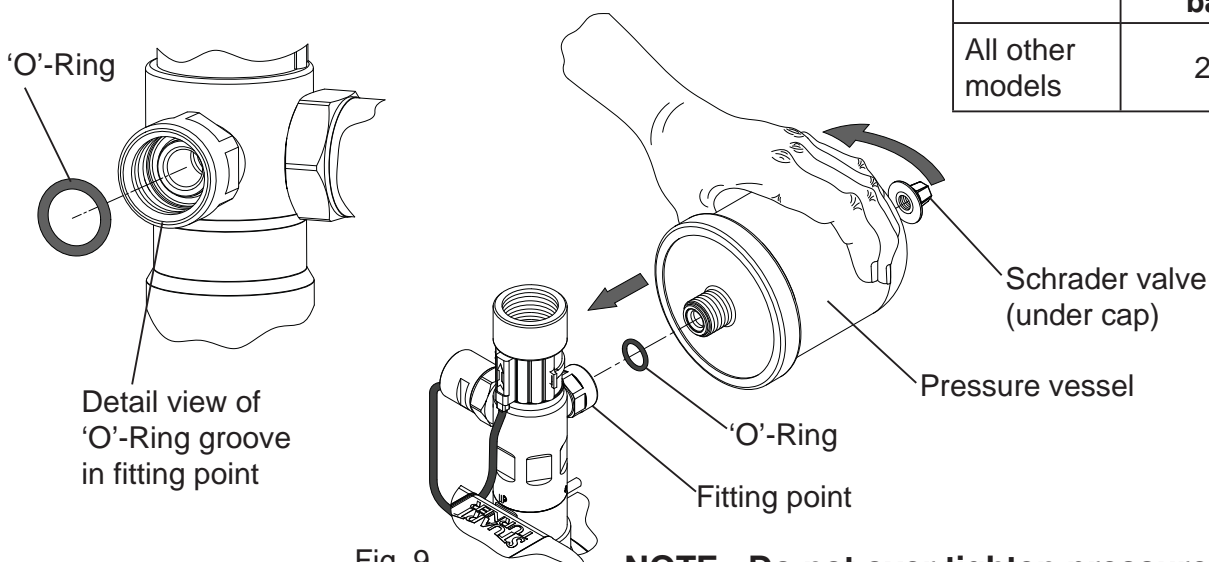

Fig. 9
- e) Check air charge at Schrader valve (Fig. 9) using a tyre pressure gauge.